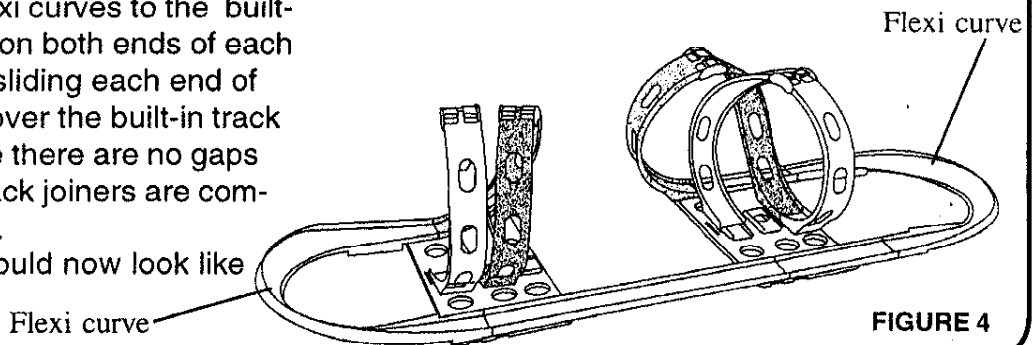

FIGURE 4
- Your track should now look like figure 4.